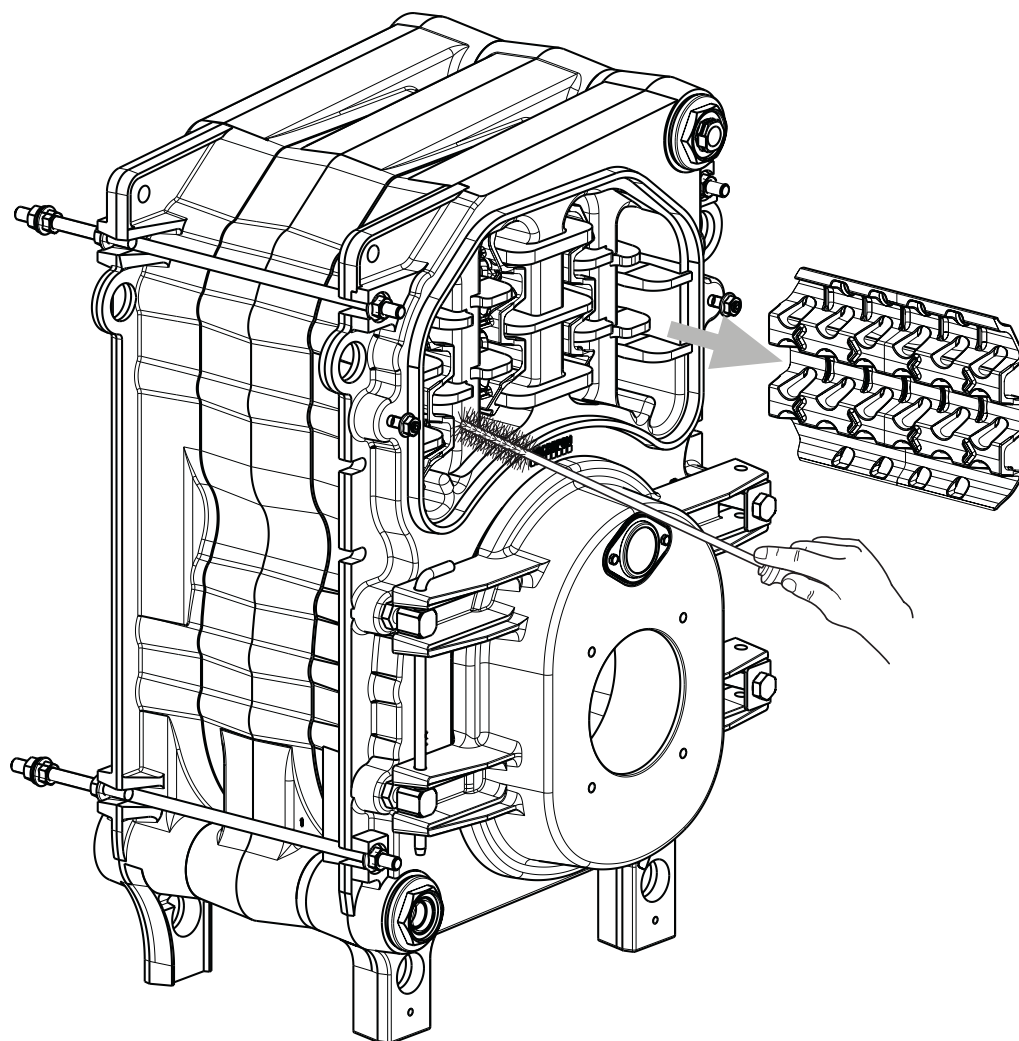

Fig. 11
3.3.1 Smoke side boiler (fig. 11)